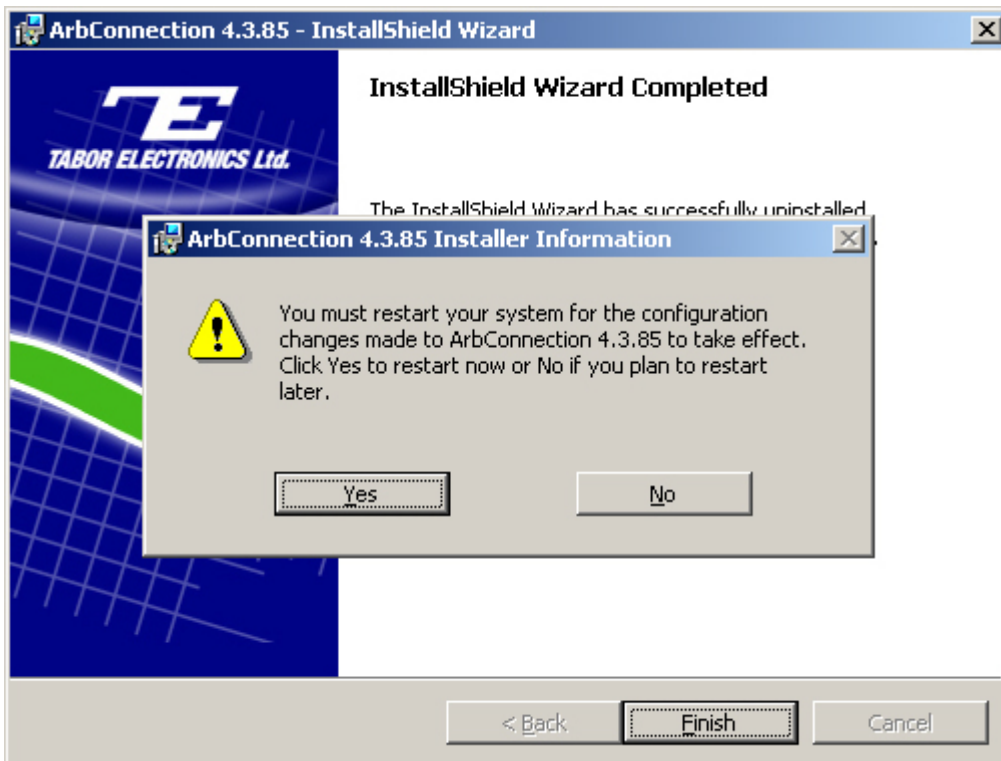

Figure 2-15: Installation Completed: Choose to Restart Now or Not
11. Your computer must be restarted for **ArbConnection** configuration changes to take place. Choose “yes” or “no” (Figure 2-15) and then click on “finish”.